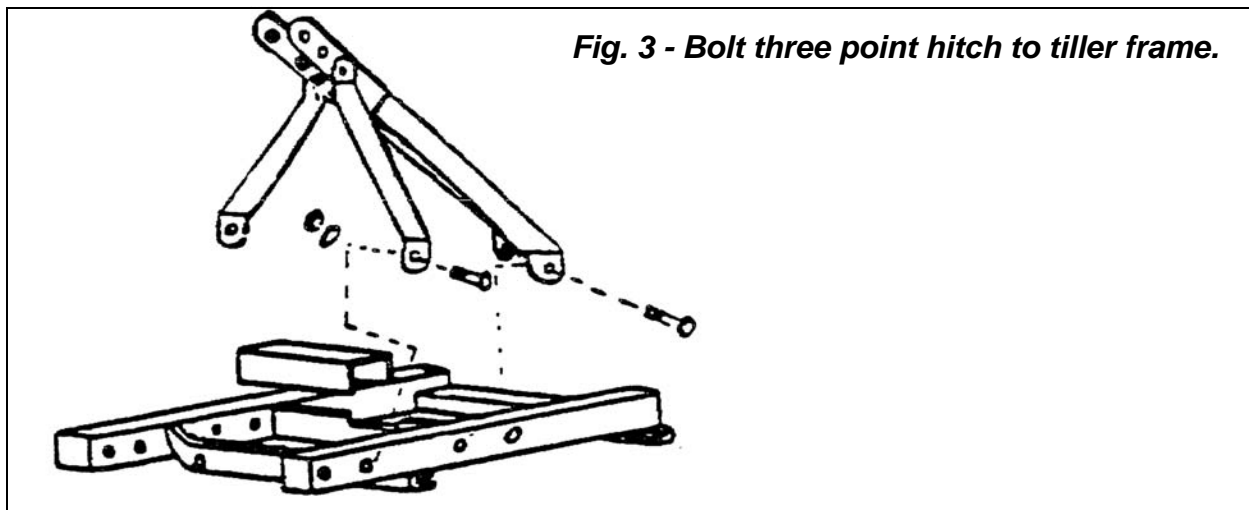

Fig. 3 - Bolt three point hitch to tiller frame.
3. Bolt the hitch together (see fig. 3), and bolt it to the tiller⁵.